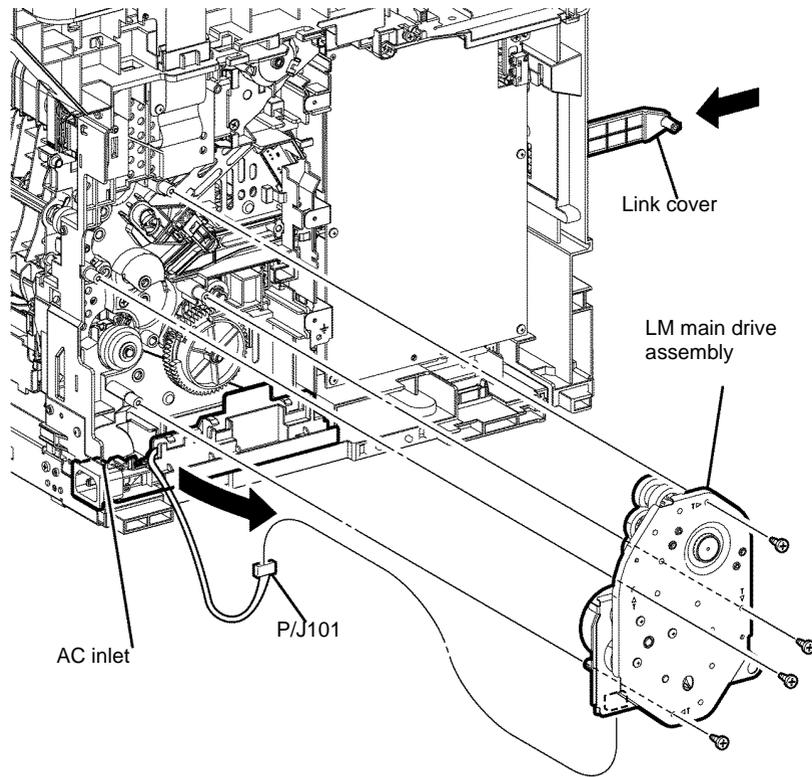

Figure 2 Main drive assembly removal
12. Remove the four screws (silver, tapping, 8mm) that fix the main drive assembly, then remove the LM main drive assembly from the printer, Figure 2.
13. Disengage P/J101 from the LM main drive assembly, Figure 2.